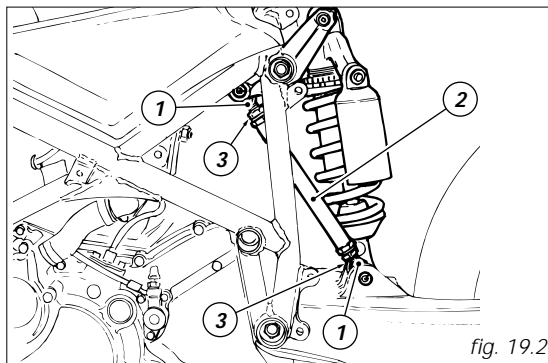

fig. 19.2
**Changing motorcycle track alignment (fig. 19.2)**